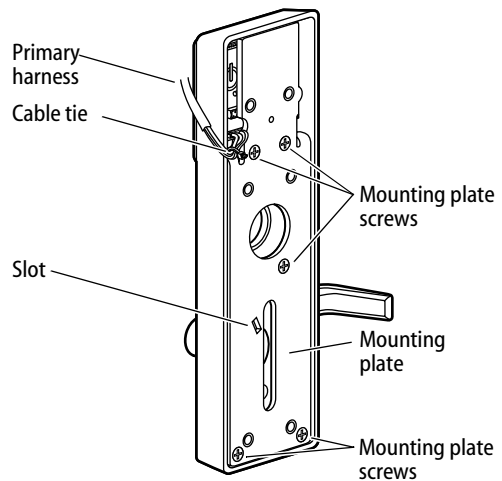
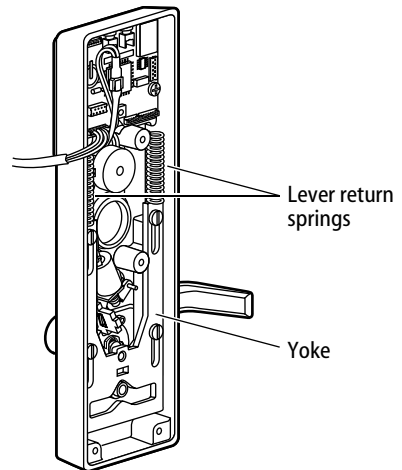

Figure 2 Removing and reinstalling the mounting plate
Figure 6 Removing and reinstalling lever return springs
- 4 Remove the mounting plate (Figure 2):
- With posts on the mounting plate inserted in the lever return springs, slide the mounting plate into the escutcheon (Figure 6). Make sure that the locking plate fits into the slot in the mounting plate. Secure with the five new screws. Route the primary harness against the mounting plate post and secure the harness to the post with a cable tie. See Figure 2.